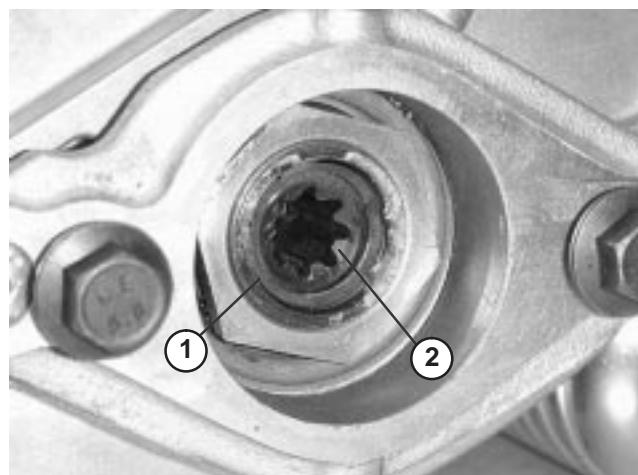

Figure 7
1. Prop (not provided)	2. Bedknife adjusting screw nut (2)	3. Allen head screw (2)
D. Remove the snap ring securing the drive coupler in the reel tube (Fig. 7). Remove the drive coupler.